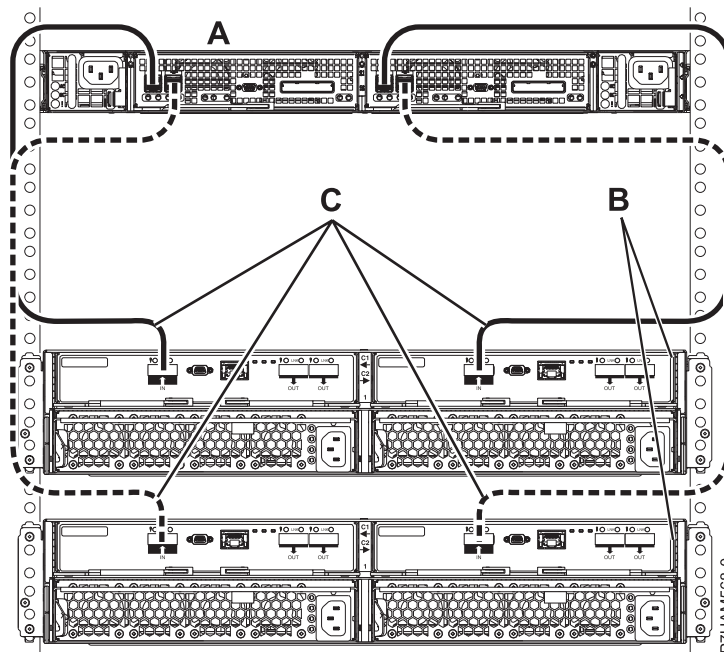

Figure 34. Mode 1 connection of two 5887 disk drive enclosures by using EX cables to a PCIe storage enclosure
- n. Perform the mode 1 connection of two 5887 disk drive enclosures (**B**) by using EX cables (**C**) to a PCIe storage enclosure with support for SAS disk drawers (**A**) as shown in Figure 34.
- Both EX cables (**C**) from the same 5887 disk drive enclosure must be attached to the same numbered SAS port on the PCIe storage enclosure as shown in Figure 34.